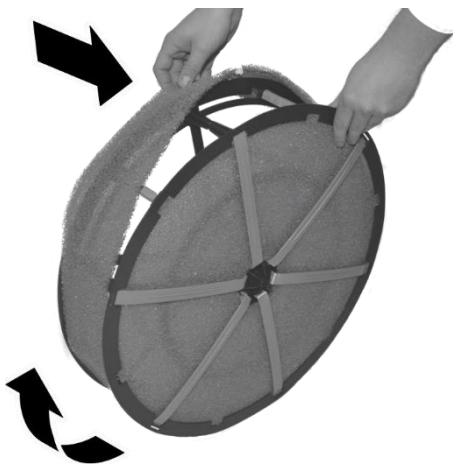

Fig. 27: Covering the outer evaporation filter
10. → Carefully pull the new outer evaporation filter over the filter drum (Fig. 27), it may tear.